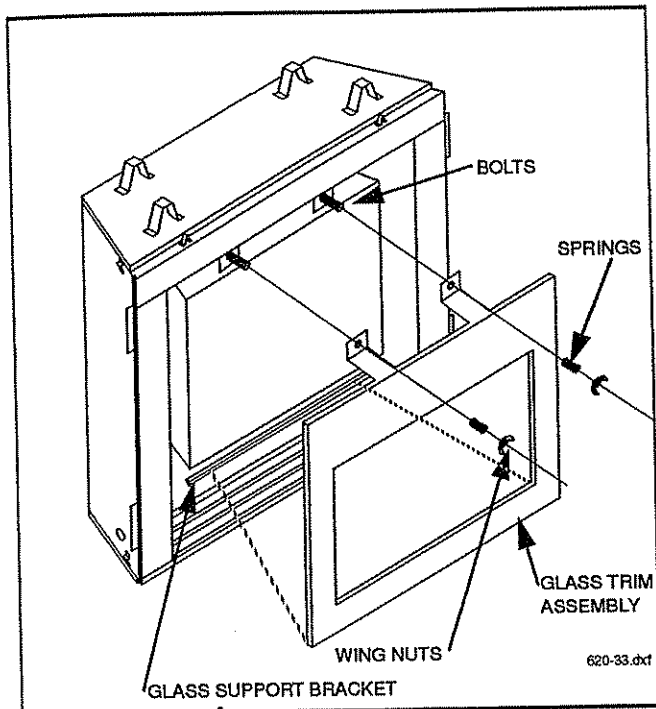

Fig. 43. Installation of glass trim assembly.
1. Carefully lift glass trim assembly and set bottom flange into glass support bracket. (See Fig. 43.)
2. Push top of glass trim assembly forward until bolts pass through holes in top flanges of glass trim assembly. (Be careful not to let go of glass trim assembly until springs and wing nuts are secured. (See Fig. 43.)
3. Slide springs over bolts, depress springs with wing nuts and fasten tightly with hand. (See Fig. 43.)